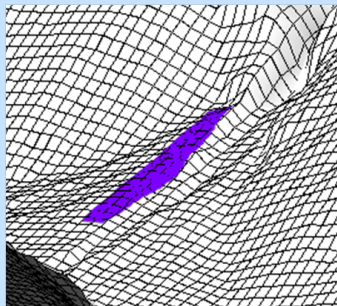

Figure 4.51: Release area where a dam is supposed to be built.
- Create a polygon ("release area") where a dam is supposed to be built (Fig. 4.51).